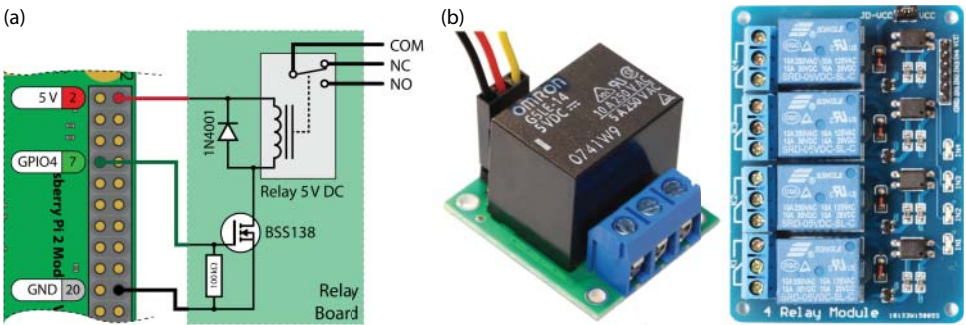

Figure 10-9: (a) Controlling a relay using the RPi, and (b) example relay breakout boards
WARNING The circuit in Figure 10-9 is intended for connection to low-voltage supplies only (e.g., 12 V supplies). High voltages can be extremely dangerous to human health, and only suitably trained individuals with appropriate safety equipment and taking professional precautions should wire mains-powered devices. Suitable insulation, protective enclosures, or additional protective devices such as fuses or circuit breakers (possibly including both current-limiting circuit breakers and earth-leakage circuit breakers) may be required to prevent creating either a shock or a fire hazard. Seek advice from a qualified electrician before installing mains-powered home automation circuitry.
Figure 10-9(a) illustrates the type of circuit that can be used to interface the RPi to a relay. It is important that the relay chosen is capable of being switched at 5 V and that, like the motor circuit, a flyback diode is placed in parallel to the relay's inductive load to protect the FET from damage. Pololu (www.pololu.com) sells a small SPDT relay kit (~\$4), as illustrated in Figure 10-9(b), that can be used to switch 8 A currents at 30 V DC using an Omron G5LE power relay. The breakout board contains a BSS138 FET, the flyback diode, and LEDs that indicate when the relay is switched to enable—that is, close the circuit connected to the normally open (NO) output. Figure 10-9(b) also illustrates a low-cost four relay breakout board.
The relays on both boards can be connected to a regular GPIO for control. For example, if the relay were connected as shown in Figure 10-9(a), to GPIO 4, it can be switched using the following steps: